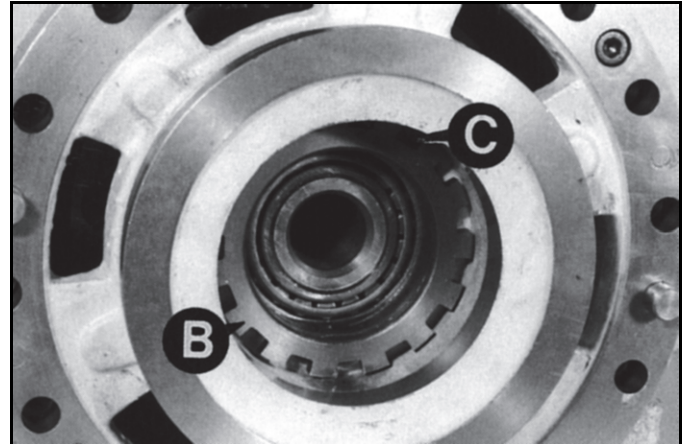
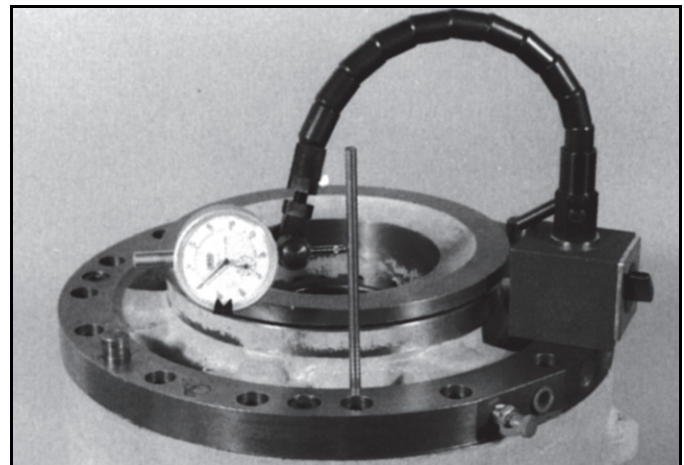

FIGURE 8-41
FIGURE 8-42
11. Adjust differential side nuts **B** Figure 8-41 to give a bearing pre-load of 1,36 to 2,5 Nm (1.0 to 1.84 lb-ft).
12. Measure the crownwheel backlash, which should be 0.13 to 0.2 mm (0.005 to 0.008 in) Figure 8-42. Adjust the differential side nuts by equal amounts when altering backlash. When backlash and pre-load are both correct, install the side nut locking pins **C** Figure 8-41. Verify crownwheel, pinion and pre-load are set properly. See Crownwheel and Pinion Adjustment on page 8-15.